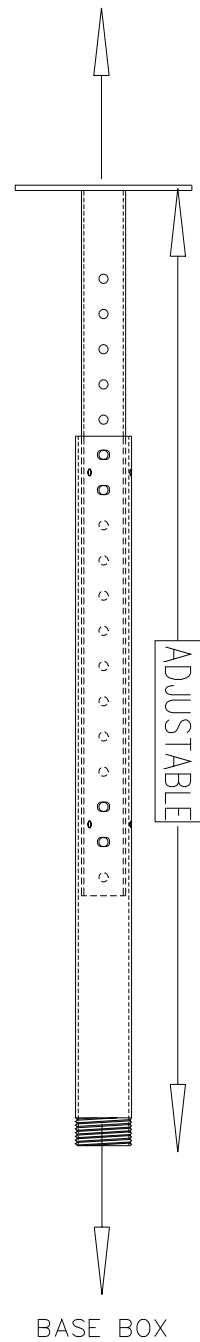

Figure 3.
4. The upper pipe has a duplicate set of thru holes. This allows you to change the normal 24" to 46" adjustable range to 12" to 24" (Figure 3).
5. Adjustable range with a simple cut of the adapter. We recommend cutting 5/8" from the center of the first hole of the second set of thru holes on the upper pipe. Cut between the 8th and 9th hole from the mounting plate (Figure 3).